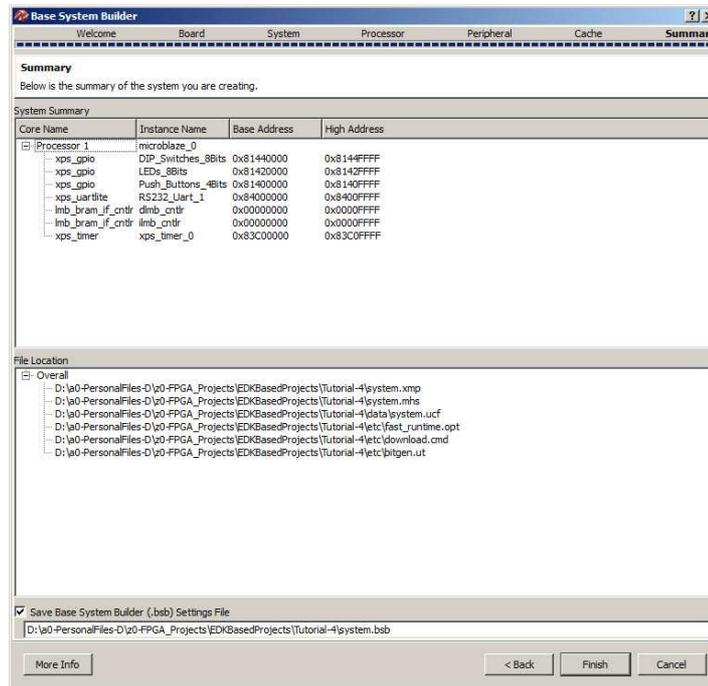

Figure 11. System Summary (Step 10)
**Step 10:** Now **we are done** configuring the hardware. The last screen of the **“Base System Builder”** is shown in Figure 11. This screen displays a summary of the system being built. Two types of information are displayed; system components and file allocation. The components list displays the name of each component and the address associated with it. The address assigned to each peripheral is unique and it is used by the processor to locate a specific device and communicate with it. For example, the device DIP\_Switches\_8Bits (the 8 switches on the board) is assigned the address 0x81440000 which means that the processor will use this address to read the value of the switches as digital input.